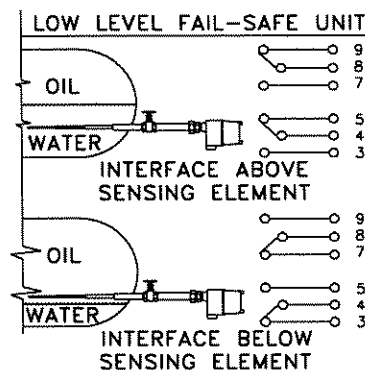

Figure 4-3
- C. Often, a malfunctioning unit can be traced to improper wiring of the relay terminals to an annunciator or other panel device. Check the wiring against the relay chart in Figure 4-3.